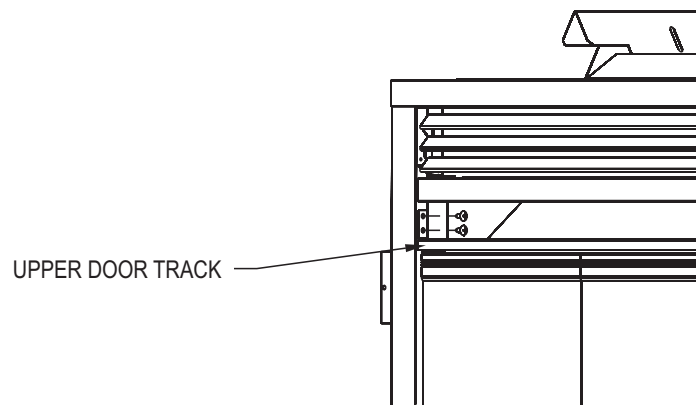

Figure 1
Step 1) Install the Top Door Track to the fireplace as shown in Figure 1 using (2) # 10 x ½” Ph Truss Hd screws at each end. Match up the holes in the track end tabs with the pilot holes in the sides of the fireplace.